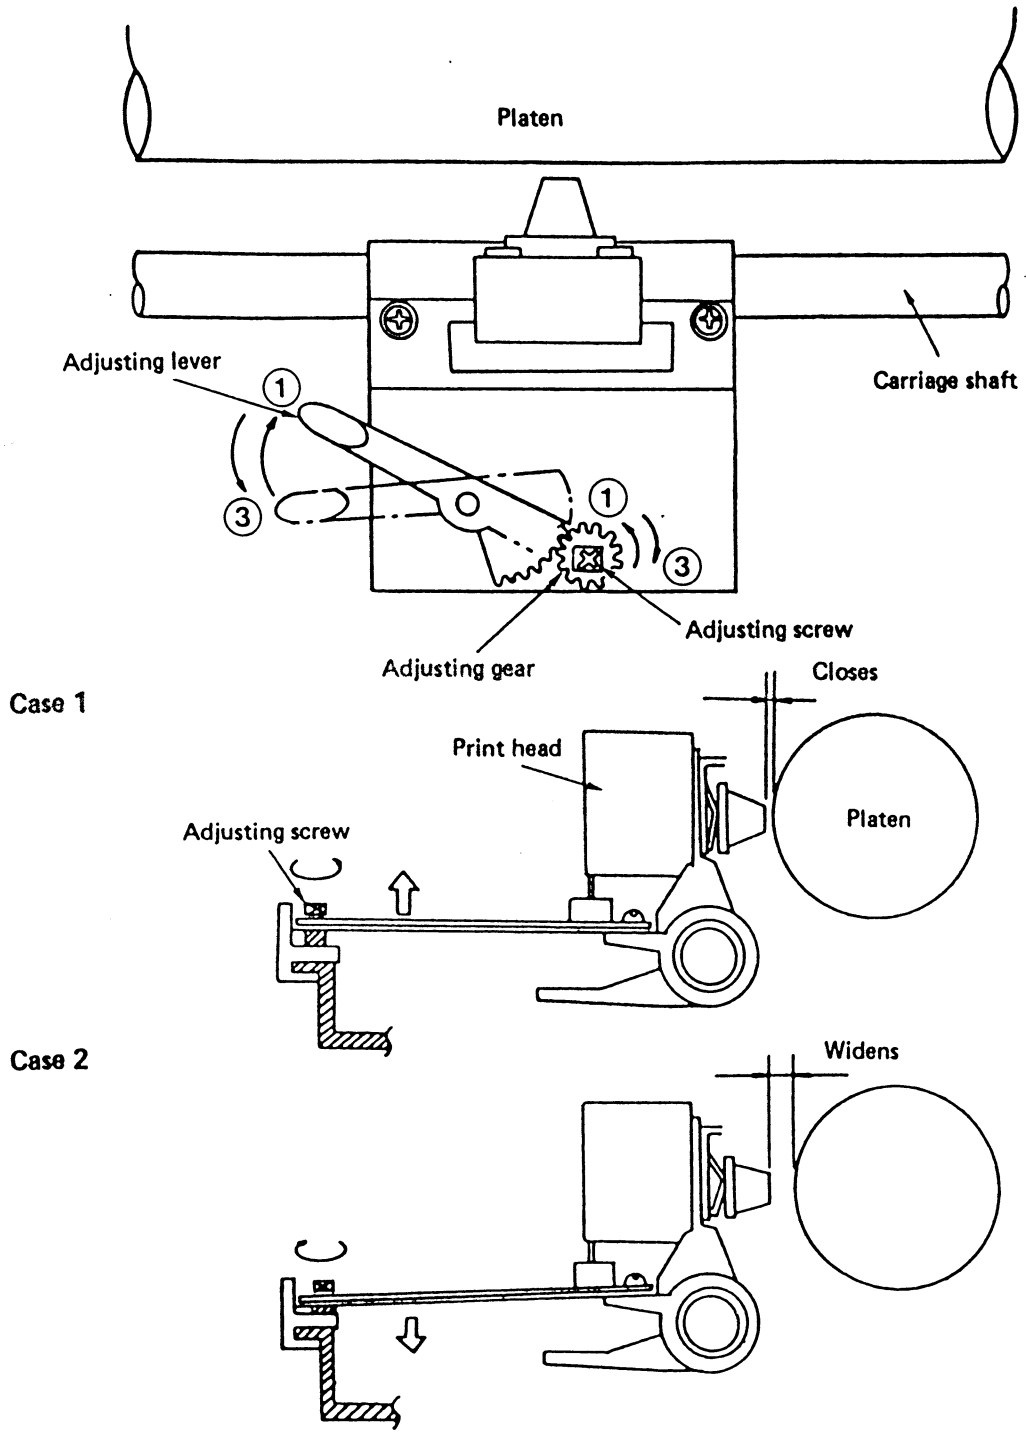

Figure 5
3.2.3 Head-Gap Adjusting Mechanism (see figure 5)